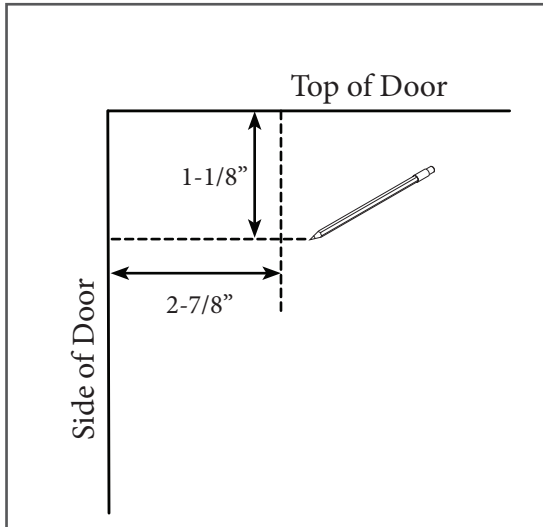

Figure 1
1. Lay the door face up on a smooth, level surface. Measure and mark $2\text{-}\frac{7}{8}\text{'}$ from the side edge of the door. Measure and mark $1\text{-}\frac{1}{8}\text{'}$ from the top edge of the door ensuring lines from both measurements intersect (Figure 1).